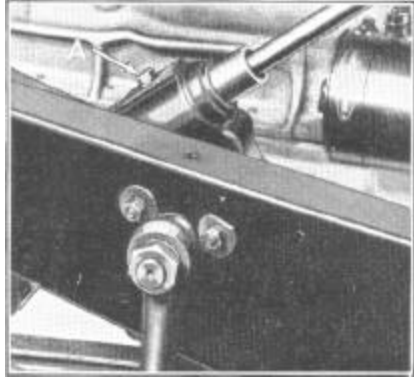

Figure 24
Remove filler plug (A), Figure 24, and fill housing until lubricant reaches level of filler hole. Replace plug securely.